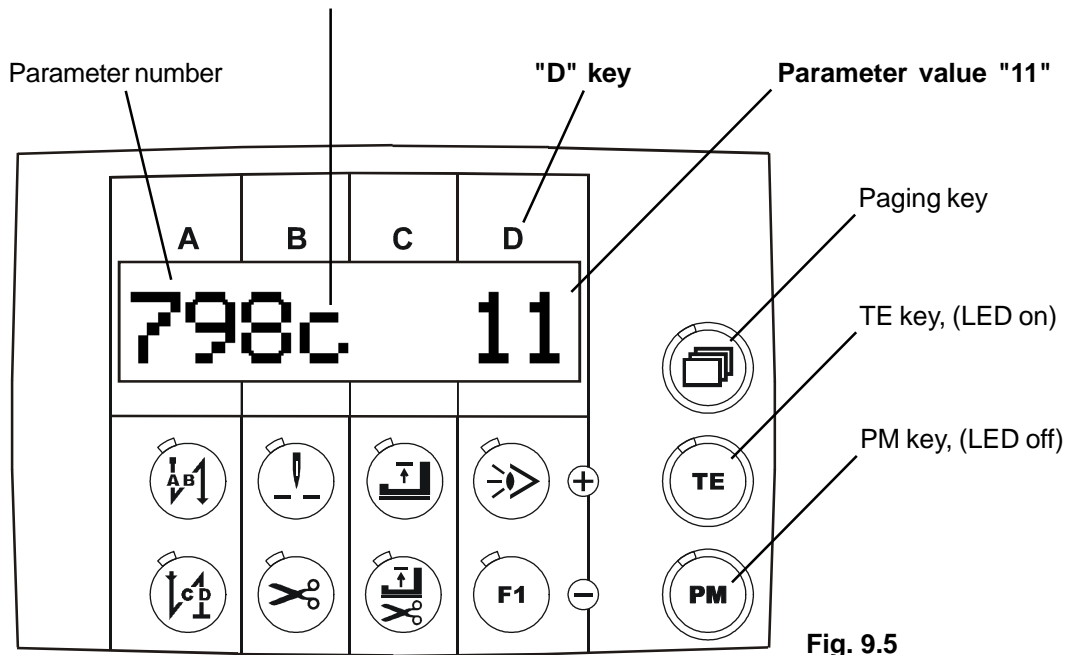

Fig. 9.5
- Use the **D+** or **D-** keys to enter **parameter value "11"**, **Fig. 9.5**
- "**c**" = programming level "**c**" then appears, **Fig. 9.5**